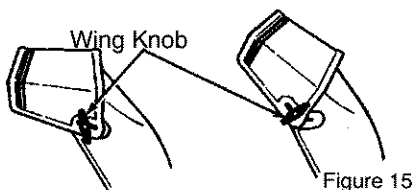

Figure 15
2. Loosen the **wing knob** on the chute deflector and move the deflector to set the distance. Move the deflector (**Up**) for more distance, (**Down**) for less distance. Then tighten the **wing knob** (See Figure 15).